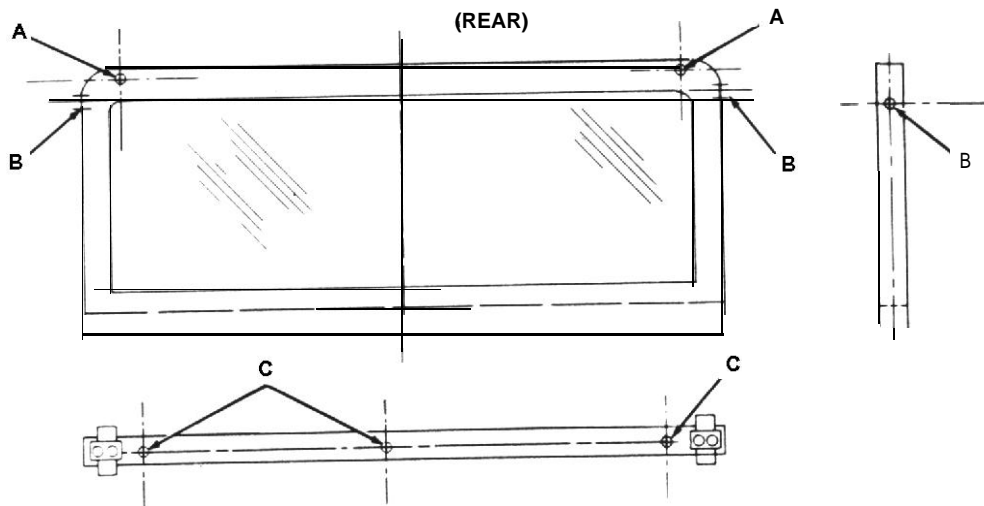

Figure 4-12. Rustproofing Windshield Frame.
f. Rustproofing Windshield Frame (see Figure 4-12).